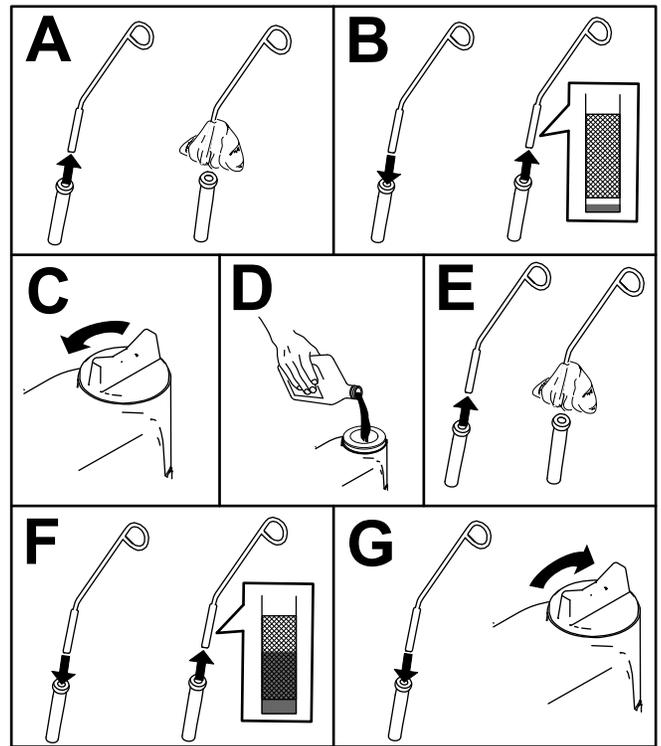

Figure 54
5. Check the oil and add additional oil as needed (Figure 54).